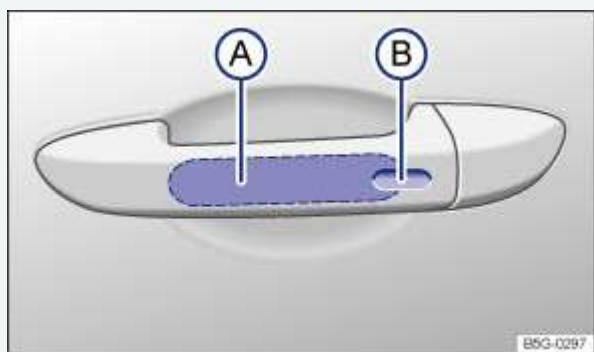

Fig. 31 Keyless Access system: Sensor for unlocking Ⓐ on the inside of the front door handles. Sensor for locking Ⓑ on the outside of the front door handles.
ing system that unlocks and locks the vehicle without active use of a remote control vehicle key. All you have to do is touch a sensor surface on one of the front outside door handles ⇒ Fig. 31 or push the Volkswagen emblem on the trunk lid ⇒ Opening the trunk lid when a valid remote control vehicle key is within range ⇒ .
- Keyless Entry: Unlocking the vehicle with the sensor surfaces on the outside door handles of the driver or front passenger door ⇒ Fig. 31^A or by using the Volkswagen emblem on the trunk lid.
- Keyless Exit: Locking the vehicle via the door handle sensor on the driver or front passenger door ⇒ Fig. 31^B.
- Grasp the door handle of the driver or front passenger door so that you touch the unlocking sensor surface ⇒ Fig. 31 [Ⓐ].
- Touch the sensor surface in the door handle on the driver or front passenger door ⇒ Fig. 31 [Ⓑ] *one time*. The vehicle is locked. The door being locked must be closed.
To use the convenience closing feature to close all power windows and the sunroof, hold your finger on the lock sensor surface on the outside of the door handle ⇒ Fig. 31® for a few seconds until the windows and sunroof close.